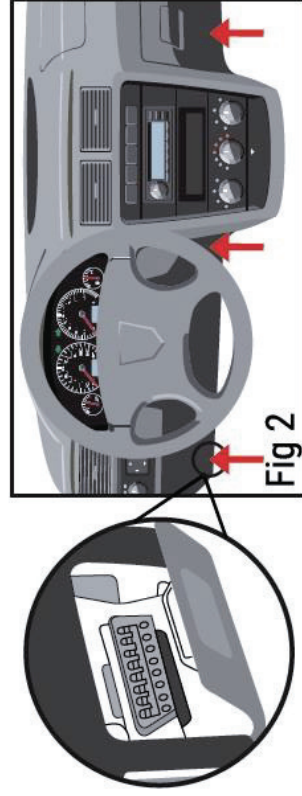

Fig 2
- 2** Find the OBDII port in your car. See Fig 2 for most common locations and what to look for. For more information consult your car's user manual.